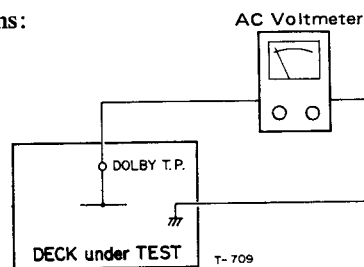

Fig. 6-4 Connection
2. Adjust R180/R280 for 580 mV ( $-2.5 \text{ dB}$ ) on AC Voltmeter connected to the Dolby test points. (Fig. 6-4)